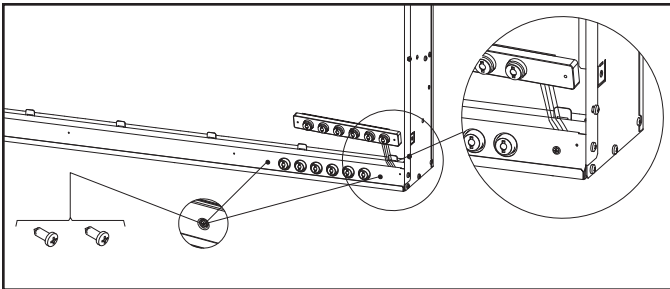

Figure 9 Touch Button Assembly
2. Remove the two (2) screws attaching the touch button assembly to the appliance. See Figure 9.
8. Reconnecting the wire connector. See Figure 9.